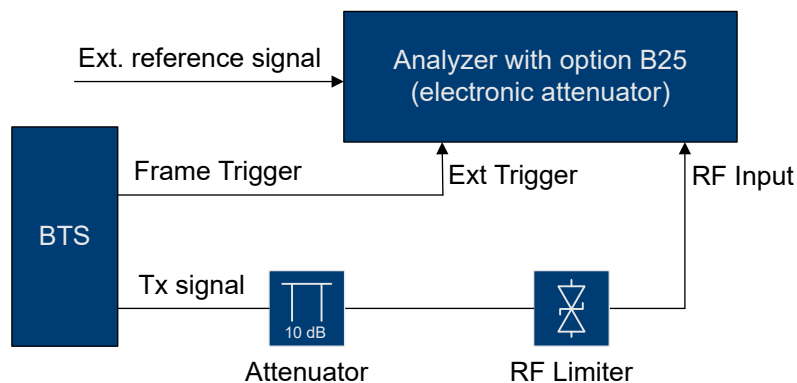

Figure 4-8: Test setup for transmit on / off power measurement
- Connect an RF limiter to the RF input to protect the RF input from damage (see Figure 4-8).